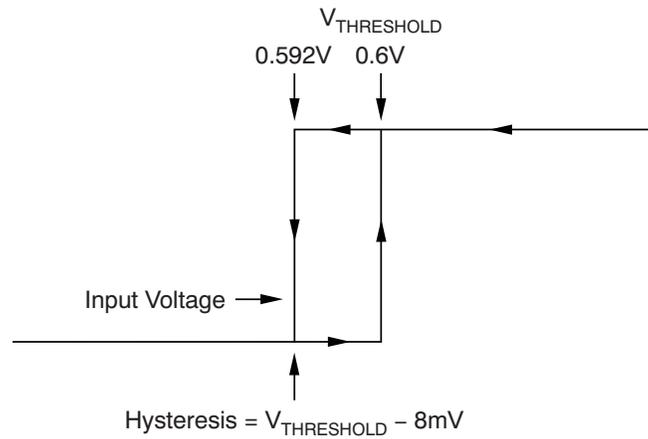

Figure 1. Typical Comparator Hysteresis
- (1) Hysteresis refers to the threshold (the threshold specification applies to a rising edge of a noninverting input) of a falling edge on the noninverting input of the comparator; refer to Figure 1.
- (2) Specified by design.
- (3) V_{ID} refers to the differential voltage at the comparator inputs.
- (4) Open-drain output can be pulled to the range of 2.7 to 18 V, regardless of V_S .
- (5) The comparator response time specified is the interval between the input step function and the instant when the output crosses 1.4 V.
- (6) The RESET input has an internal 2 M Ω (typical) pull-down. Leaving RESET open results in a LOW state, with transparent comparator operation.